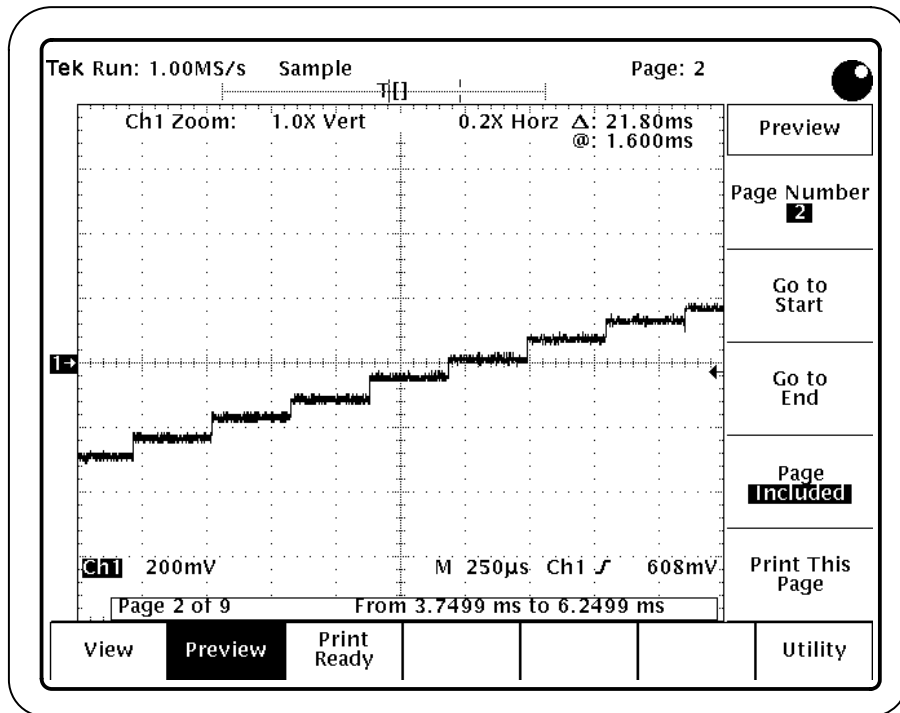

Figure 4: Preview menu
4. Press Preview (main). Figure 4 shows data in the Preview menu.